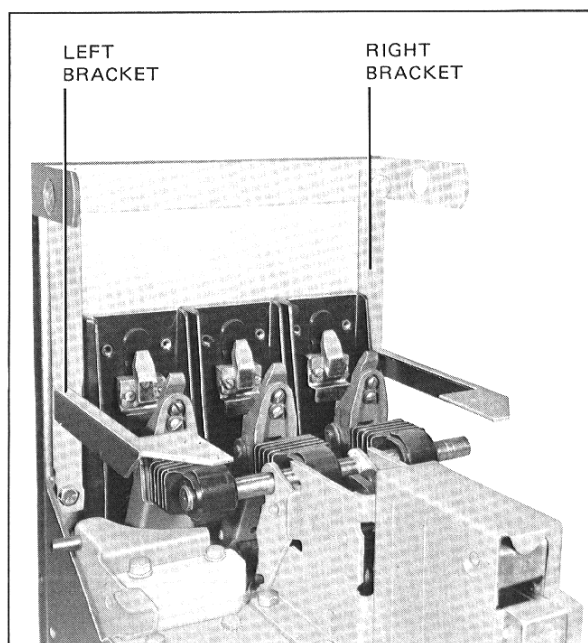

Fig. 11 Mounting of Amprector Bracket
- The Amptector Mounting details consist of two (2) "T" shaped brackets, one right and one left hand which are secured to the rear frame. Remove the existing bolts at top, place bracket over lift bracket and secure with .5-13 x 1.25 bolt, using the existing hole secure the bottom end of bracket with .38-16 x 1.5 bolt, Fig. 11.